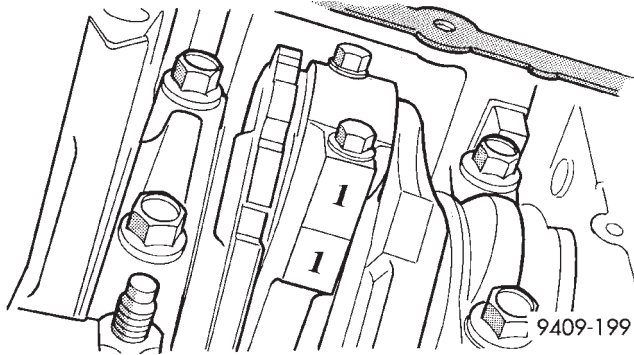

Fig. 91 Identify Connecting Rod to Cylinder
(2) Remove oil pan. Scribe the cylinder number on the side of the rod and cap (Fig. 91) for identification.
(3) Pistons have a directional stamping in the front half of the piston facing towards the **front** of engine.
(4) Pistons and connecting rods must be removed from top of cylinder block. Rotate crankshaft so that each connecting rod is centered in cylinder bore.
(5) Remove Balance Shaft Assembly. Refer to Balance Shaft Removal in this section.
(6) Remove connecting rod cap bolts. Push each piston and rod assembly out of cylinder bore.